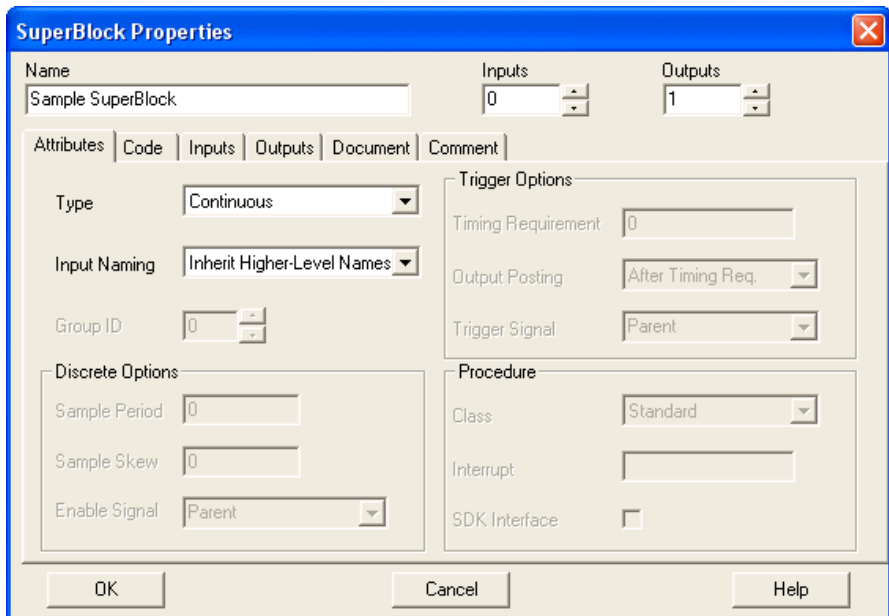

Figure 4-4. SuperBlock Properties Dialog Box for Creating a New SuperBlock
2. With the **SuperBlock Properties** dialog box (refer to Figure 4-4), complete the following steps.